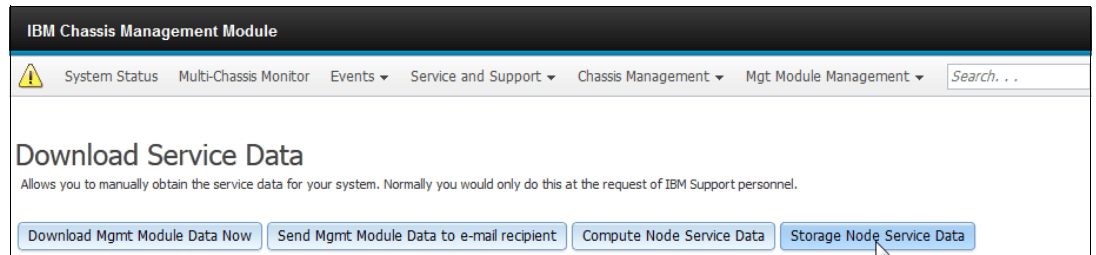

Figure 3-35 CMM - Download Service Data from Storage Node
- ▶ The *Download Service Data* page gives four options. We pick the option, **Storage Node Service Data**, as shown in Figure 3-35.